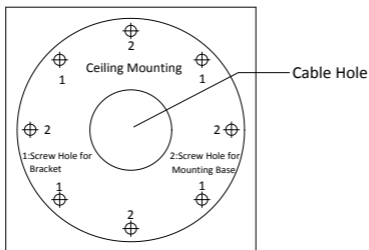

Figure 2-3 Drill Template
1. Paste the drill template to the desired mounting place. Drill the screw hole and the cable hole according to the supplied drill template (shown as Figure 2-3).